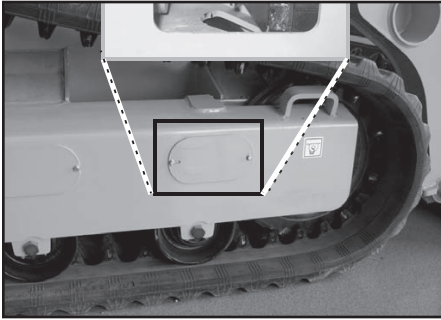

Fig. 96 - Tension Stop Cylinder
1. With the machine running and the drive system not moving, remove tension cylinder stop (Fig. 96) on the side of the machine with the track to be replaced.